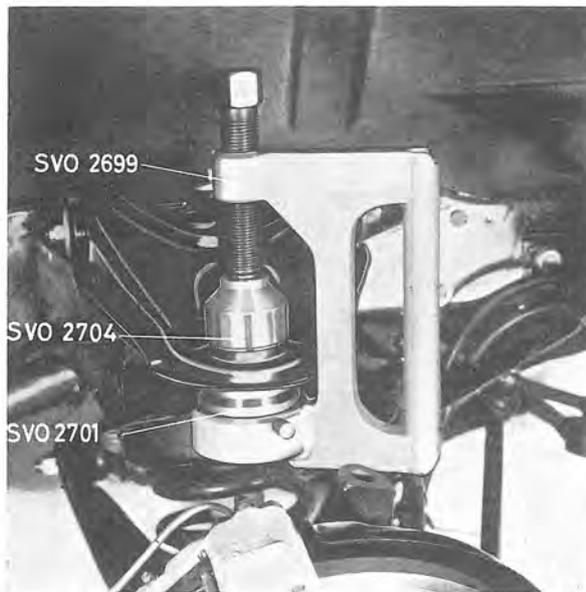

Fig. 6-23. Fitting the upper ball joint
2. Press the ball joint into the wishbone with press tool SVO 2699, sleeve 2701 and drift 2704, see Fig. 6-23. Make sure that the ball joint recess coincides with the longitudinal shaft of the wishbone either externally or internally (Fig. 6-22) as the pin has maximum movement along this line. Should the ball joint be incorrectly fitted when being pressed in, turn the tool SVO 2699 half a turn and then press the ball joint into the correct position. The